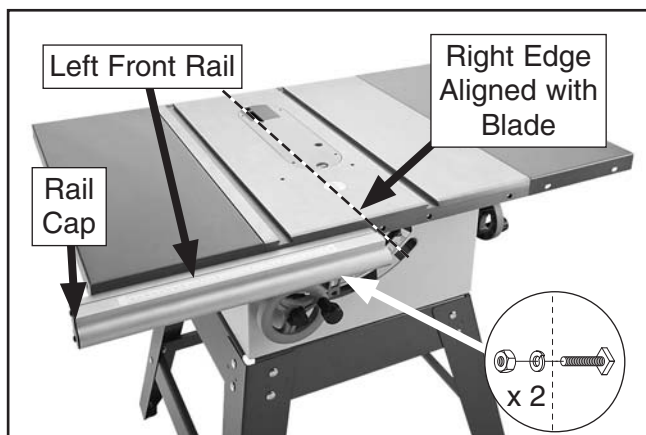
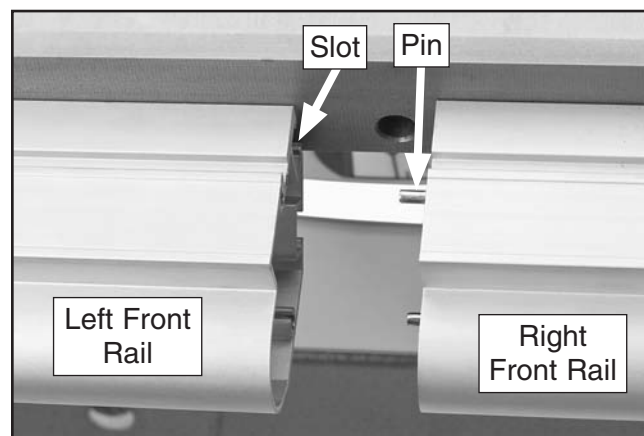

Figure 22. Left front rail installed.
Figure 23. Front rail pins and slots.
21. Insert the bolts into the corresponding holes on the extension wing and main table, then align the right edge of the left front rail (see **Figure 22**) with the saw blade.
22. Secure the front left rail with (2) 8mm lock washers and (2) M8-1.25 hex nuts, as shown in **Figure 22**. Do not fully tighten the fasteners yet. Also install the left rail cap with two M4 x 10 tap screws.
23. Slide (4) M8-1.25 x 20 T-slot bolts into the slot in the right front rail, then insert the bolts into the mounting holes in the extension wing and main table.
24. Slide the two pins on the end of the right front rail (Figure 23) into the holes in the left rail.